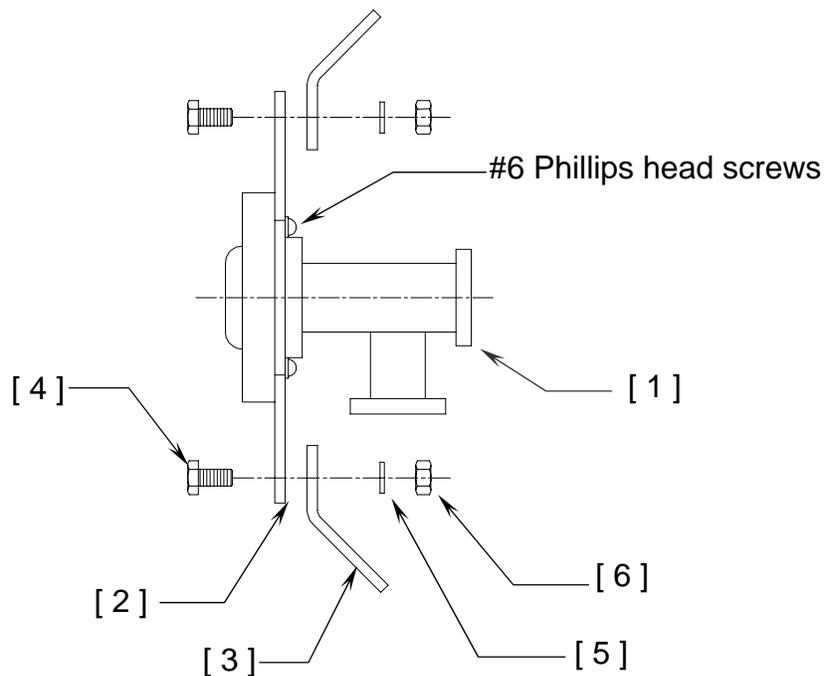

FIGURE 4
Remove outer most (4) #6 Phillips head screws. Position the mounting plate (item 2) over the waveguide flanges until it is flush with the backside of the scalar ring as shown in Figure 4. Re-install the (4) Phillip head screws. Attach (4) feed mounting brackets to the mounting plate with 1/4" hardware (items 4, 5, 6).